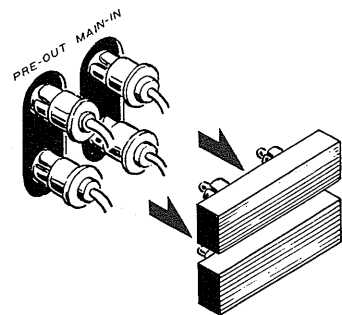

Fig. 13
1. Remove the plugs on the rear panel of the SX-626 (Fig. 13).